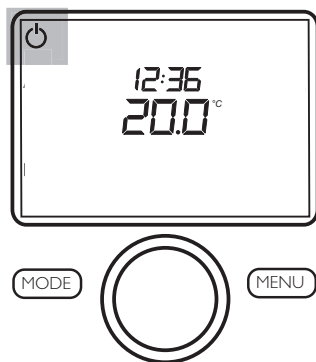
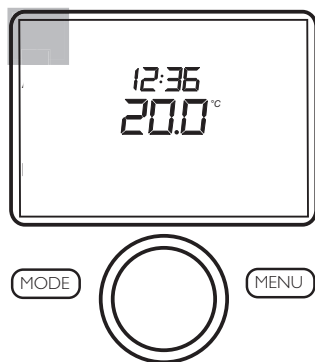

Fig 19. Unit in Standby Mode.
Fig 20. Standby turned off.
4. The screen display shows the current settings. Fig 19 shows the unit in Standby Mode. Fig 20 shows Operating Mode.